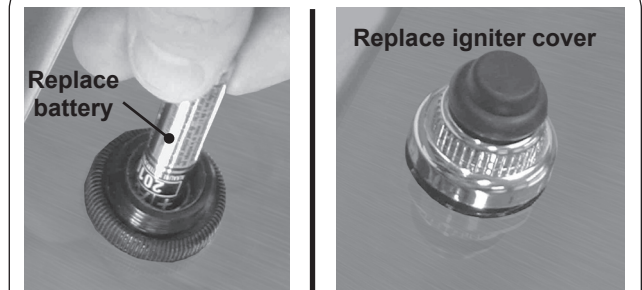

**Fig. 38-1** Remove igniter cover
1. Remove the igniter cover by turning it counterclockwise (see Fig. 38-1).